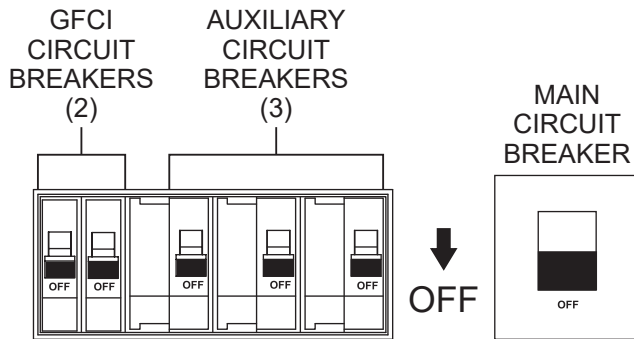

Figure 47. Main, Auxiliary, And GFCI Circuit Breakers (OFF)
1. Place the **main, auxiliary, and GFCI** circuit breakers (Figure 47) in the **OFF** position prior to starting the engine.